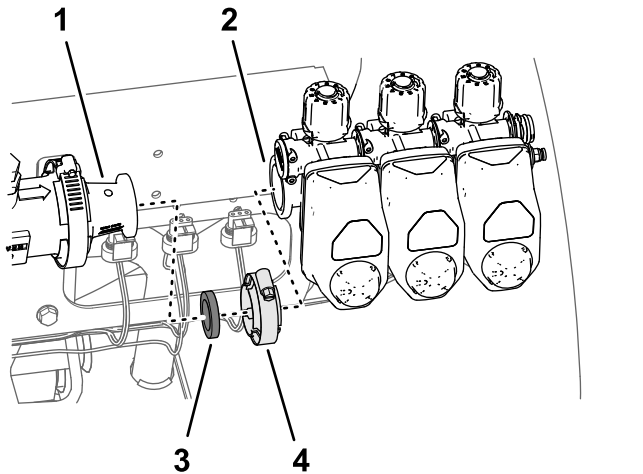

Figure 69
- Remove the 3 section valves from the machine (Figure 69).